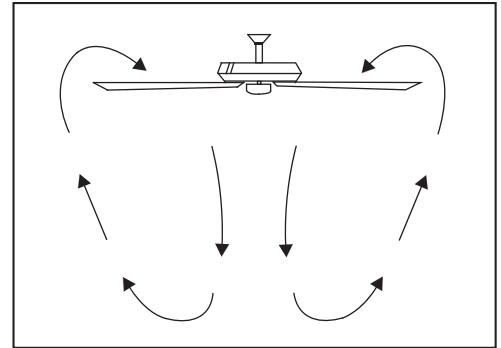

Figure 23
**Warm weather** - (Counter-Clockwise direction) A downward air flow creates a cooling effect. (Fig. 23) This allows you to set your air conditioner on a higher setting without affecting your comfort.